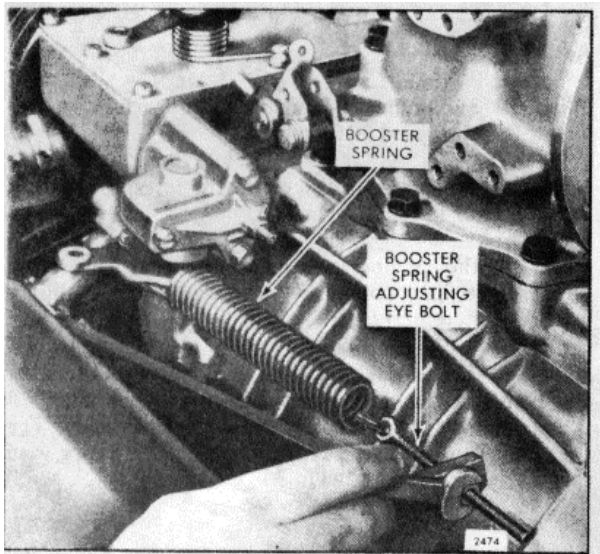

Fig. 7. - Adjusting Booster Spring
2. Refer to Fig. 7 and loosen the booster spring retaining nut on the speed control lever. Loosen the locknuts on the eyebolt at the opposite end of the booster spring.